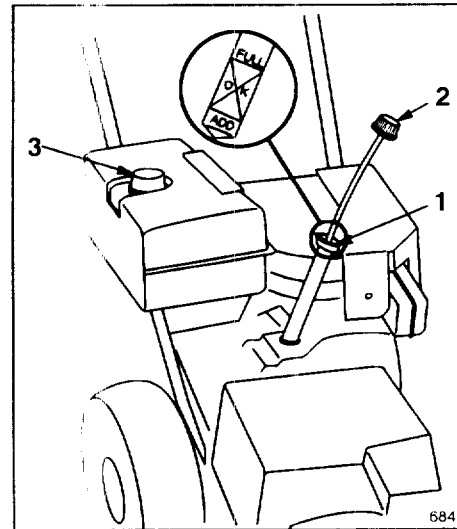

Figure 13
3. Remove dipstick from crankcase (Fig. 13)
1. Clean area around the fuel tank cap (Fig. 13). Remove cap from fuel tank. Using unleaded, regular gasoline, fill tank to within 1/4" to 1/2" (6 to 13 mm) from the top of the tank, not into the filler neck. This space is for expansion of fuel. Do not fill tank full. Reinstall fuel tank cap.